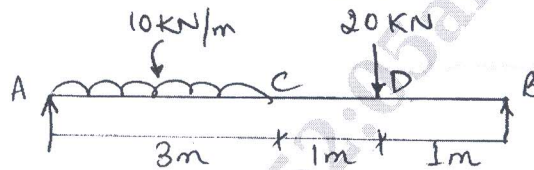

Fig. Q4 (b)
b. Draw SFD and BMD for the beam shown in the Fig. Q4 (b).